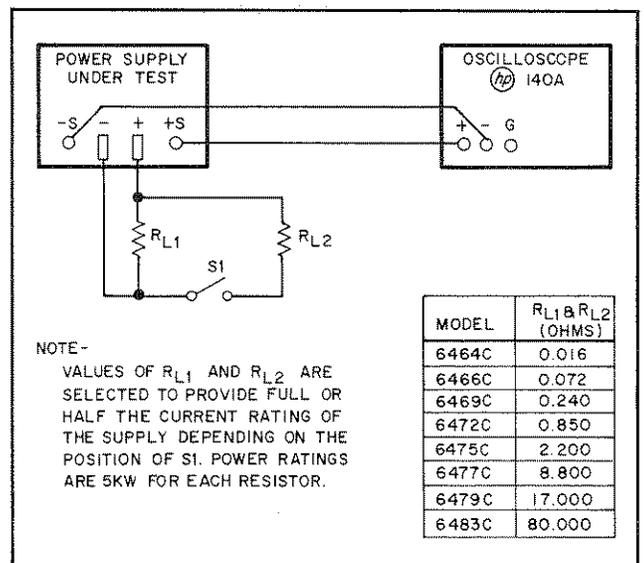

Figure 5-4. Transient Recovery Time Test Setup
- Connect test setup shown in Figure 5-4.